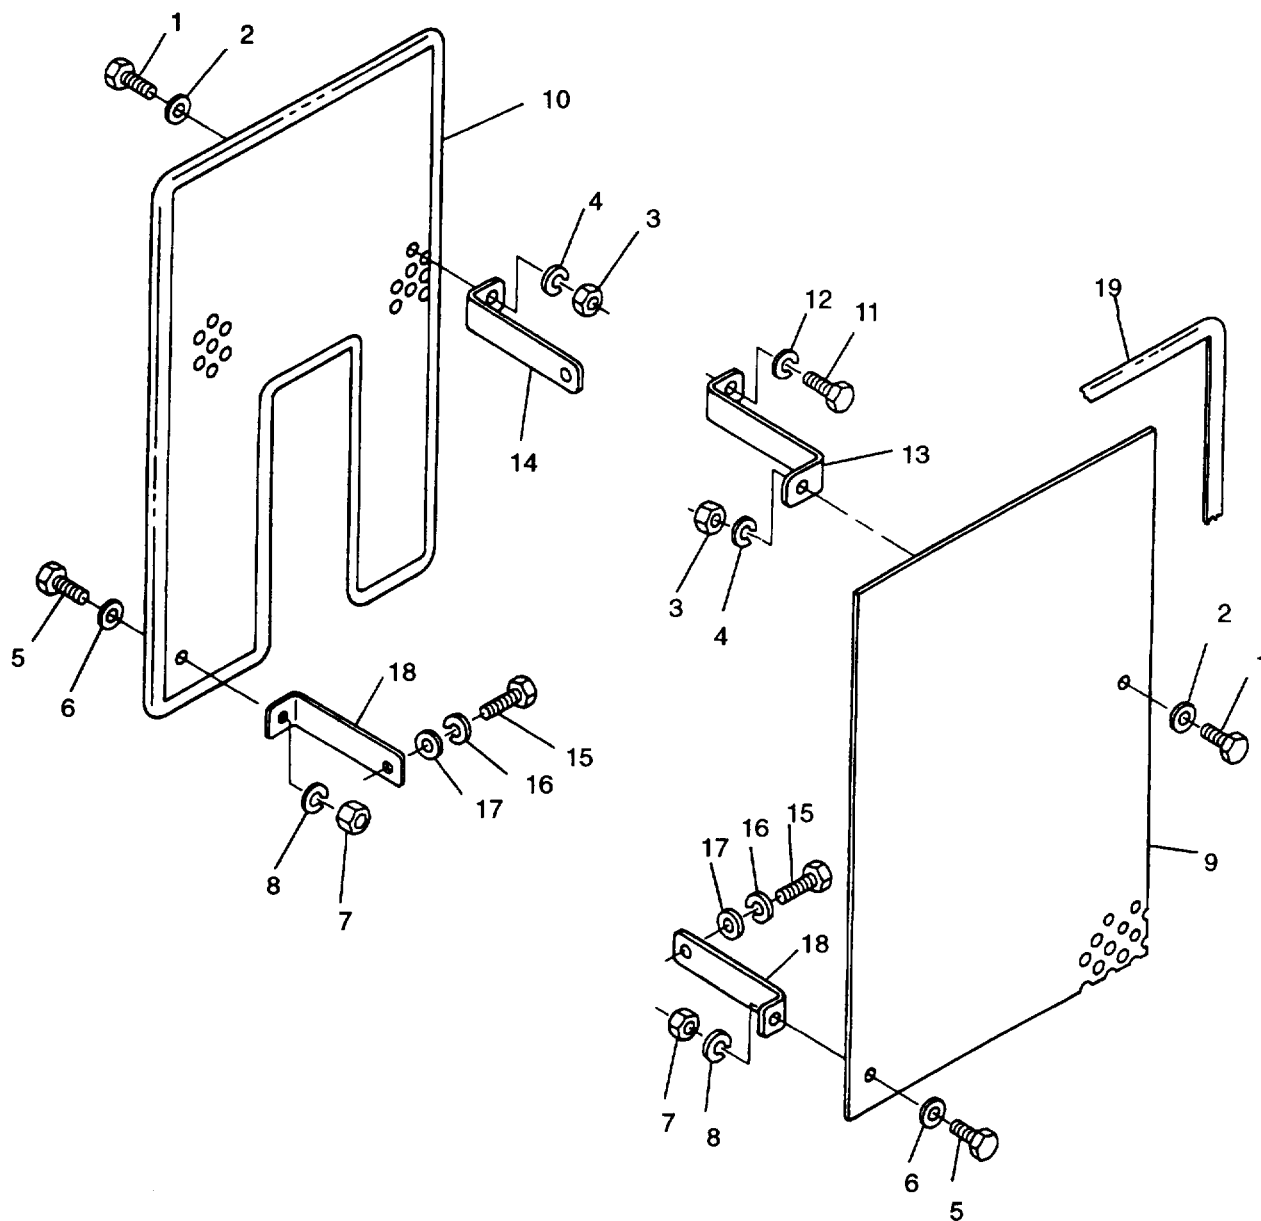

FIGURE 2-24. Fan Guards
- d. Remove bolts (1 and 5, FIGURE 2-24), washers (2) and (6), nuts (3) and (7), and lockwashers (4) and (8) securing fans guards (9) and (10).
- e. If necessary, remove belts (11) and (15), lockwashers (12) and (16) and washers (17) securing brackets (13), (14), and (18).
- a. If removed, install bolts(11 and 15, FIGURE 2-24),lockwashers(12) and (16), and washers (17) securing brackets (13), (14), and (18).